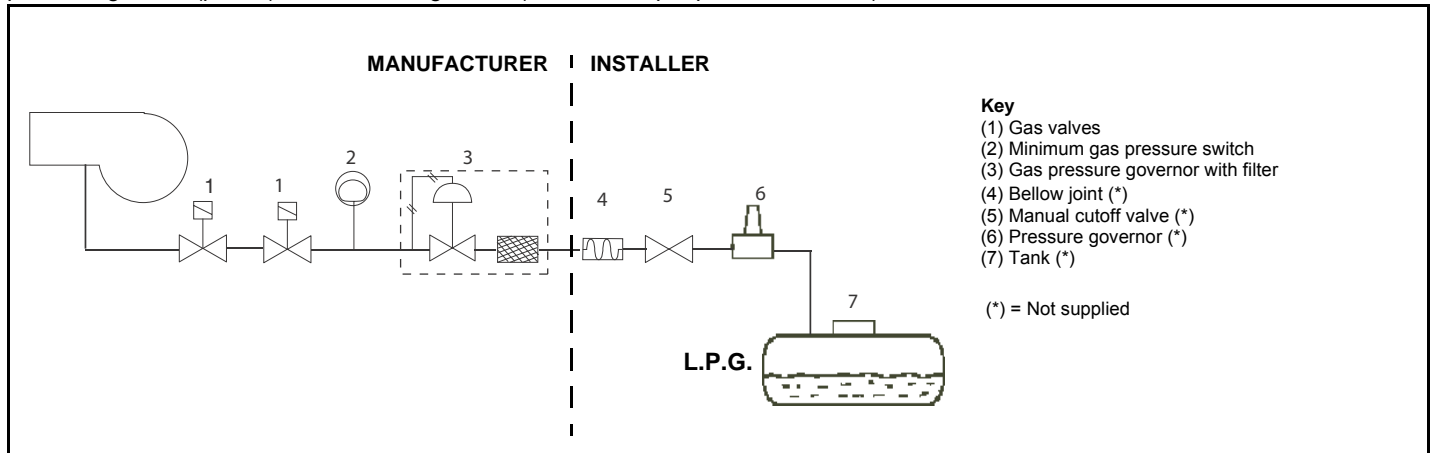

Fig. 13
**ATTENTION:** once the gas train is mounted according to the diagram on Fig. 13, the gas proving test must be performed, according to the procedure set by the laws in force.